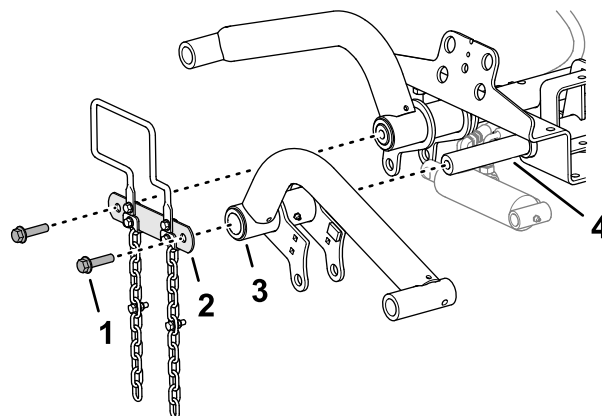

Figure 9
1. Assemble the lift arms onto the lift arm pivot shafts as shown in Figure 9).
2. Assemble pivot-shaft link to the lift arm pivot shafts (Figure 9) with the 2 flange capscrews (1/2 x 2 inches) that you removed in Preparing to Install the Lift Arms (page 15).